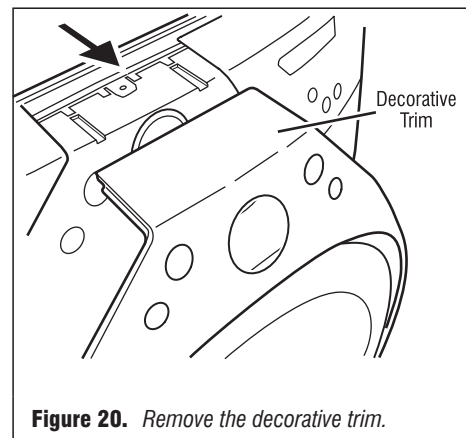

Figure 20. Remove the decorative trim.
- Gently remove the decorative trim that surrounds the door and upper console by unsnapping it from the machine. See figure 20.